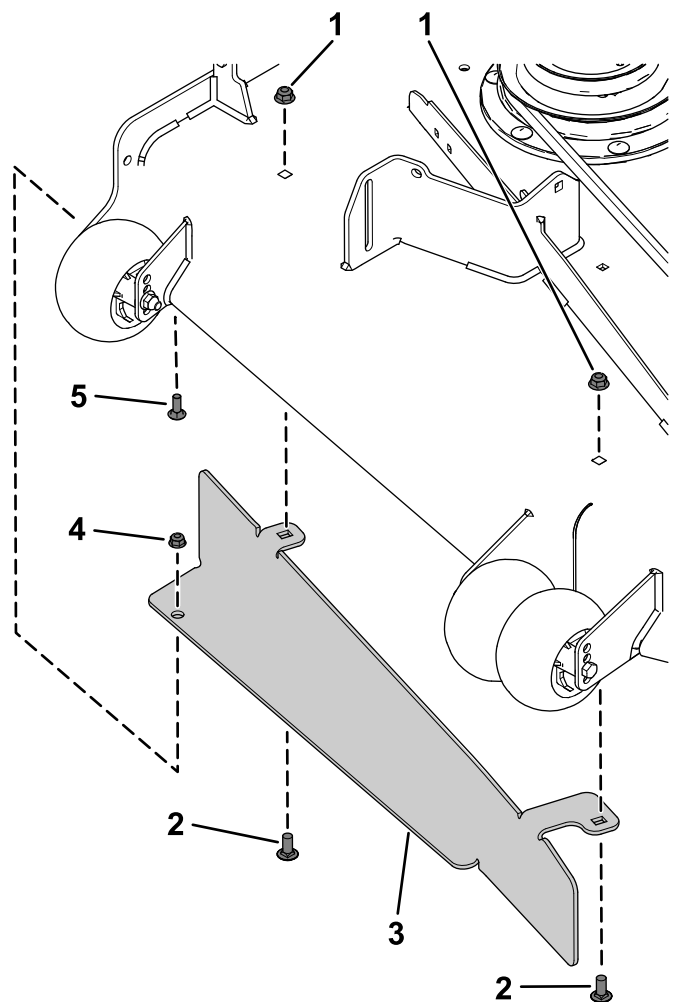

Figure 24
2. Install the baffle using the carriage bolt (5/16 x 7/8 inch), flange nut (5/16 inch), 2 carriage bolts (3/8 x 7/8 inch), and 2 flange nuts (3/8 inch) as shown in Figure 24.